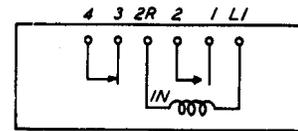

Fig. 113 – Winding and Spring Terminal Arrangement as Viewed From Rear (terminal side) — 1- and 2-Type Timers
4.19 The contact springs are numbered consecutively from left to right facing the contact side of the timer and from right to left facing the terminal side. Balancing springs (springs not equipped with contacts) are not numbered. (See Fig. 113.)